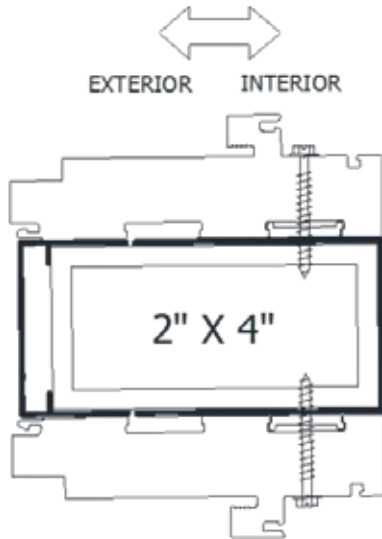

Figure 6
5. Locate the mullion (Item 7 or 8) and mullion clips (Item 9). Secure and install mullion and mullion clips into the opening in compliance with local code requirements AAMA specifications, Miami-Dade NOA, or test reports. See Figures 6 and 7.